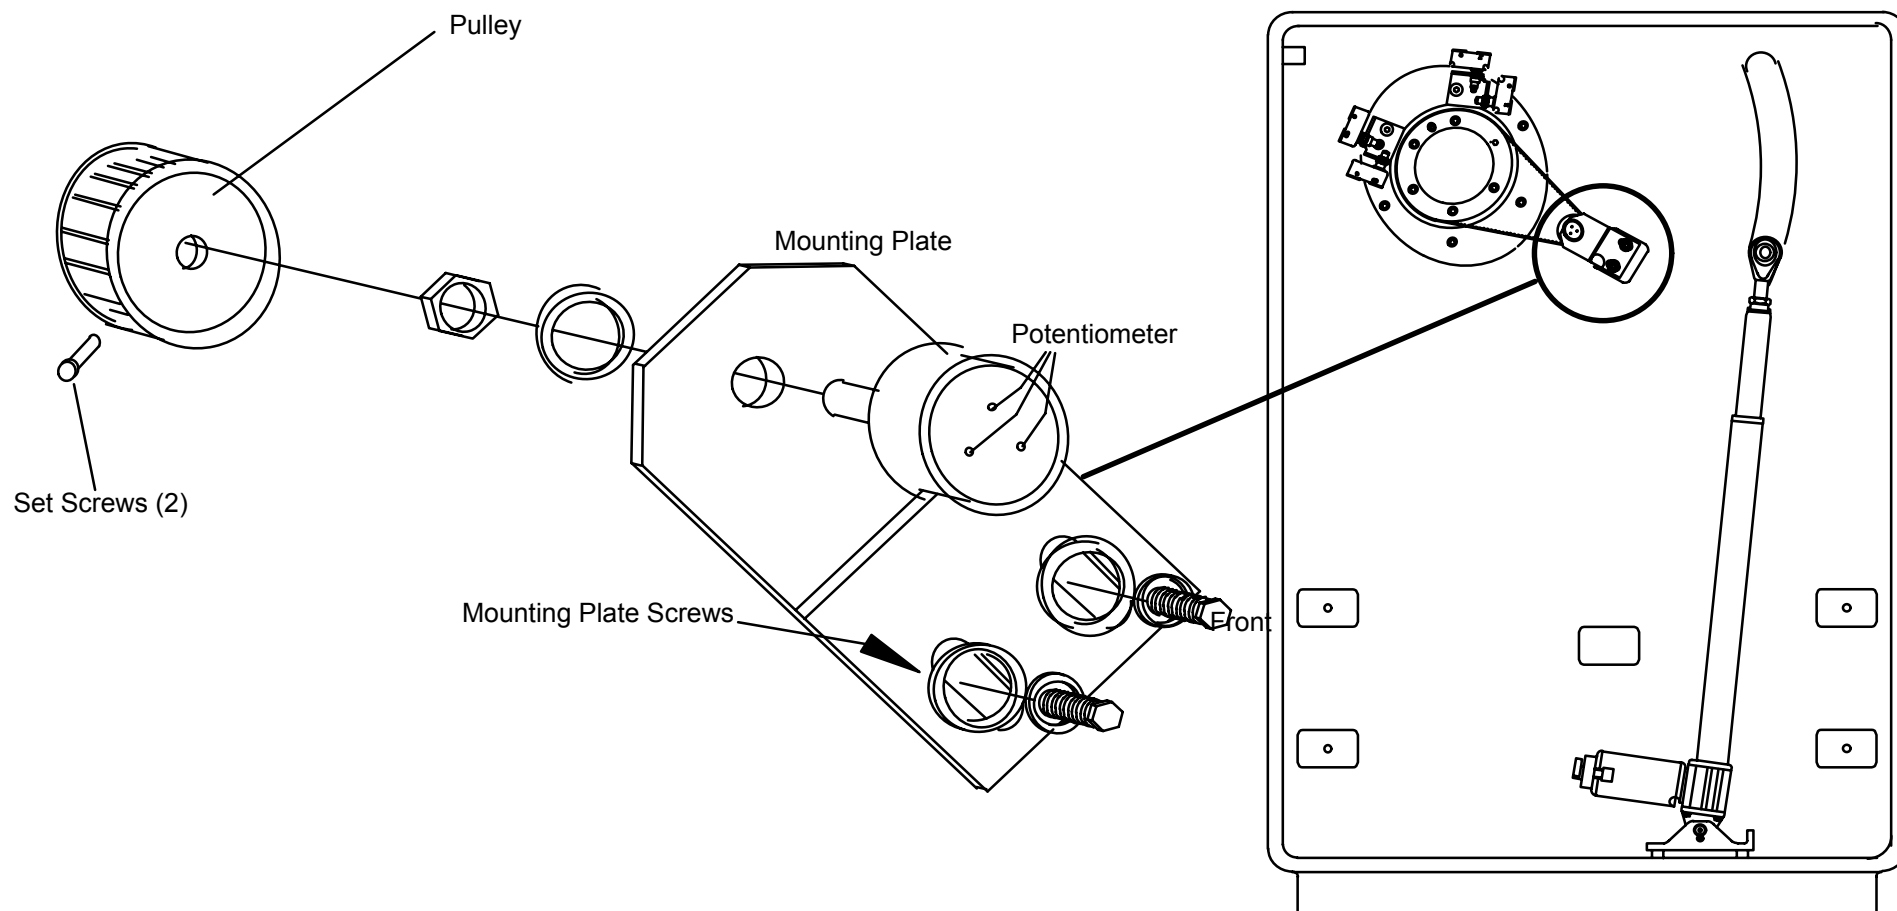

FIGURE 300 Potentiometer Assembly – Exploded
3. Tag and unsolder the three wires connected to the Tilt Pot. See Figure 300.